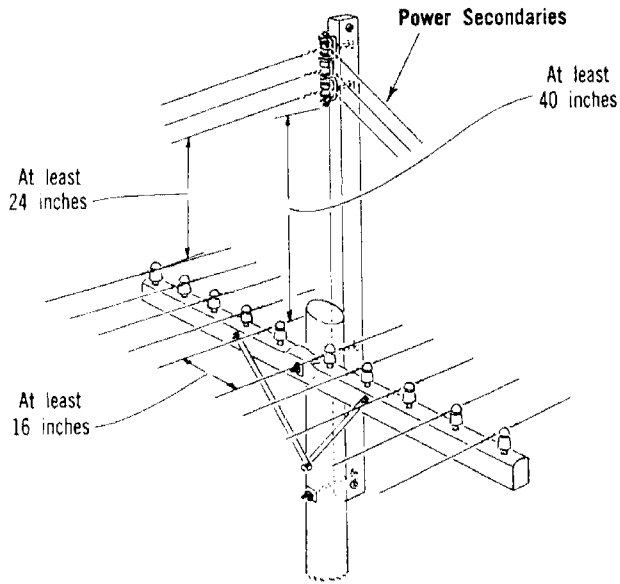

Fig. 8
2. For open secondary service wires crossing over a telephone line on a pole top extension fixture or attached to the top of a pole carrying no other power attachments, the 40-inch requirement may be reduced to 24 inches above the *outer wires* of open wire on crossarms, provided 40 inches *clearance is maintained at the pole*. (See Fig. 8.) (EEI-Bell System requirement.)